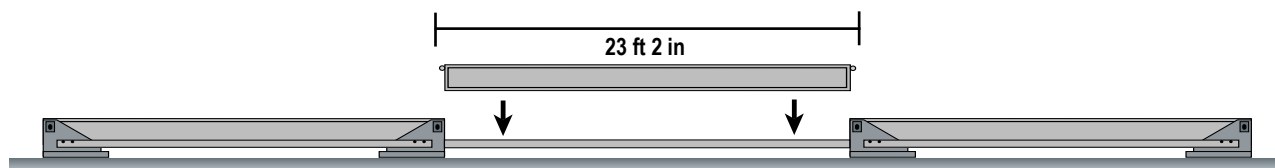

Figure 2-2. Spacer Tube Installation
2. Install spacer tubes to the first module using the supplied hardware (see Figure 2-2).